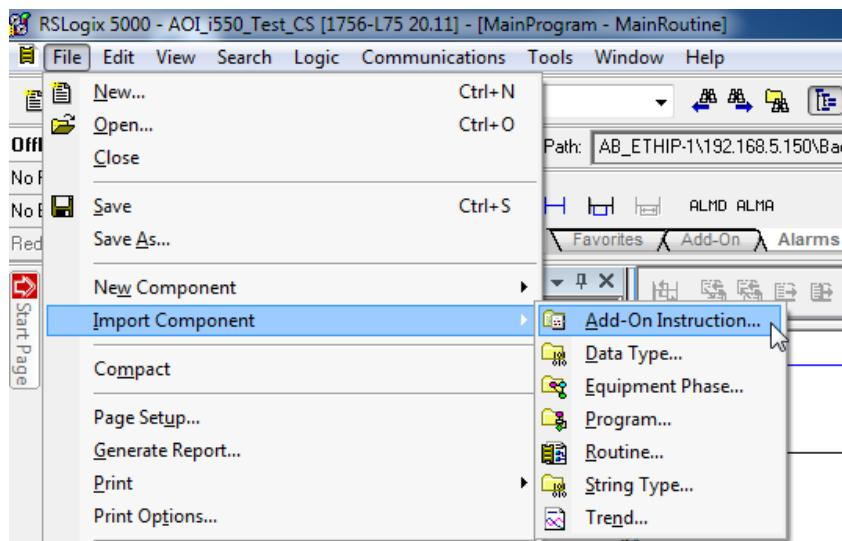

Figure 15: Insert Add-On Instruction
- 1) Insert i550\_ActuatorSpeed Add-On Instruction (AOI) into project from file. See Figures 15, 16. Note: It is only necessary to insert this once per project.